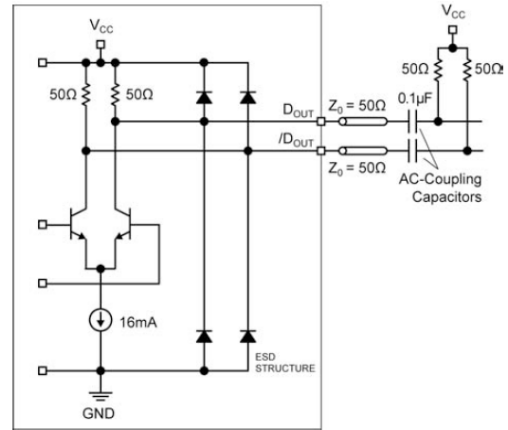
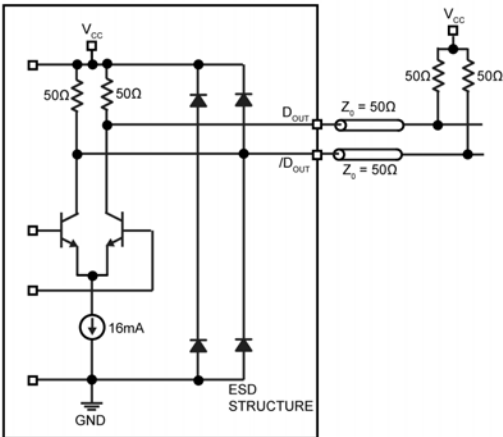

Figure 3a. Simplified Output Structure with AC-Coupled Termination
Figure 3b. Simplified Output Structure with DC-Coupled Termination
- V_{OL} and V_{OH} are measured with outputs loaded with 50 Ohms as shown in Figure 3b and V_{OD} is measured in accordance with Figures 3a and/or 3b.